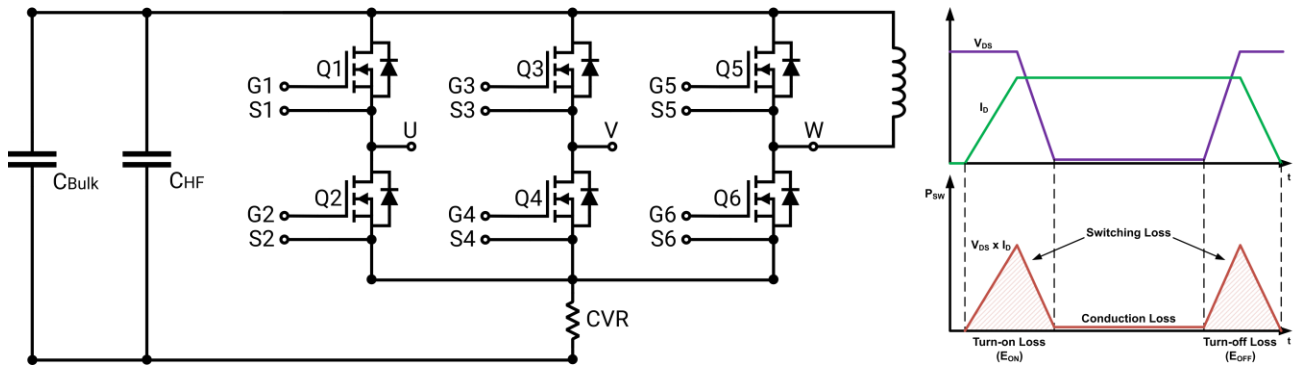
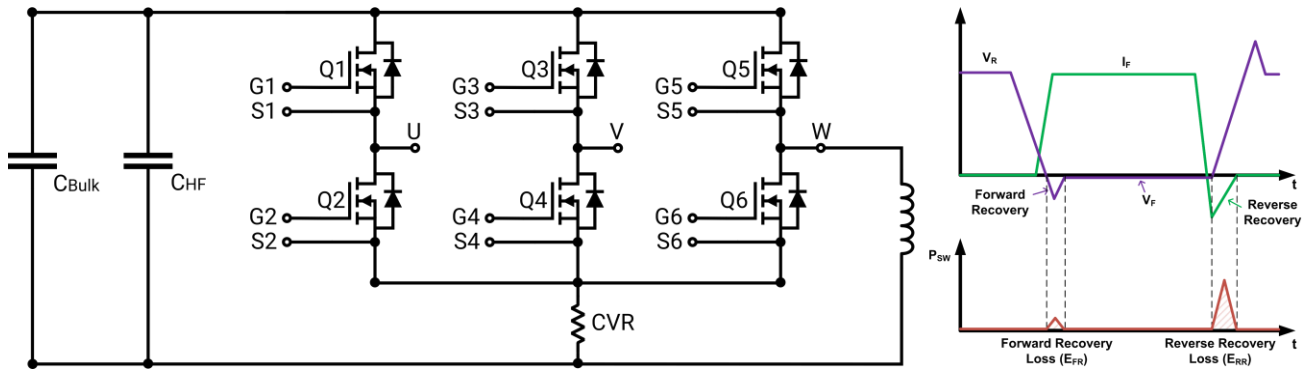

Figure 2 CIL Test Fixture Used to Measure the Switching Loss of MOSFET Q6
Figure 3 CIL Test Fixture Used to Measure the Switching Loss of Body Diode D5
There are two types of switching events: actively switched (MOSFET) and forced commutated (body diode). The test fixtures to measure both events are given below in Figure 2 and Figure 3, respectively for the “W” phase leg. Phase legs “U” and “V” are inactive in this example and are configured to remain off during testing to avoid affecting the measurements of the active switch positions. Q5 and Q6 represent the selected switch positions of the Wolfspeed WolfPACK six-pack power module. Likewise, D5 and D6 represent the intrinsic body diodes of each switch position since there are no external Schottky diodes. For both tests, film capacitors (C_{Bulk}) are used for bulk energy storage to provide the needed energy transfer to the inductor (L) for the switching event, while high-frequency ceramic capacitors (C_{HF}) are used to provide a low-inductance switching loop. For MOSFET switching measurements in Figure 2, the inductor is connected across the upper switch position of the phase leg from the “W” midpoint to the positive bus rail while Q5 is held off and Q6 is pulsed; for body diode switching measurements in Figure 3, the inductor is connected across the lower switch position of the phase leg to the negative bus rail while Q5 is pulsed and Q6 is held off.